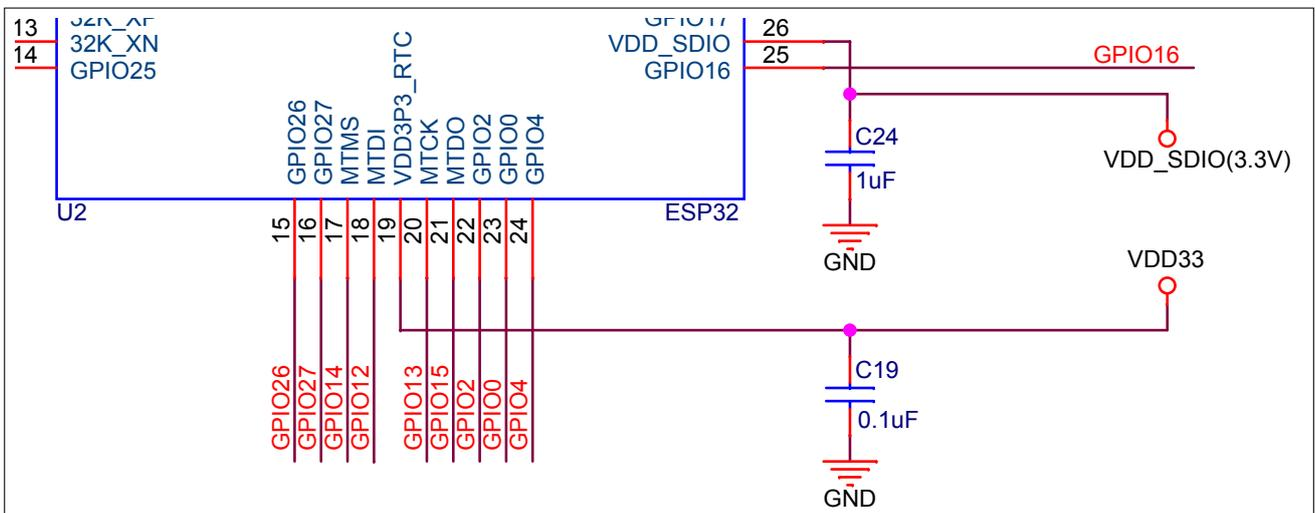

Figure 4: Schematic for 3.3 V VDD_SDIO Power Supply Pin
- When VDD_SDIO operates at 3.3 V, it is driven directly by VDD3P3_RTC through a 6 Ω resistor, therefore, there will be some voltage drop from VDD3P3_RTC. When the VDD_SDIO outputs 3.3 V, it is recommended that users add a 1 μF filter capacitor close to VDD_SDIO. See Figure 4.